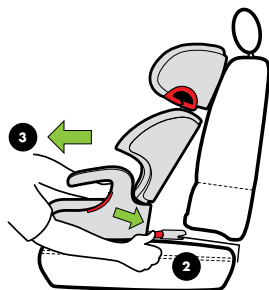

Figure 23
Locate the red buttons on the front of the LATCH Connectors. Releasing one LATCH connector at a time, use your thumb to press in on one button ❷ while using the other hand to pull this booster seat forward ❸, as shown in **Figure 23**. Repeat for the opposite LATCH connector.